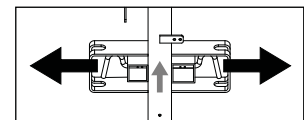

Figure 1
6. To raise the mast, simultaneously pull out the spring-loaded plungers on each side of the mast and slowly begin to lift up (See Figure 1). Release plungers as you continue to extend the mast to the desired height. The height may be adjusted to one of five heights (as measured to the top of the installed light):